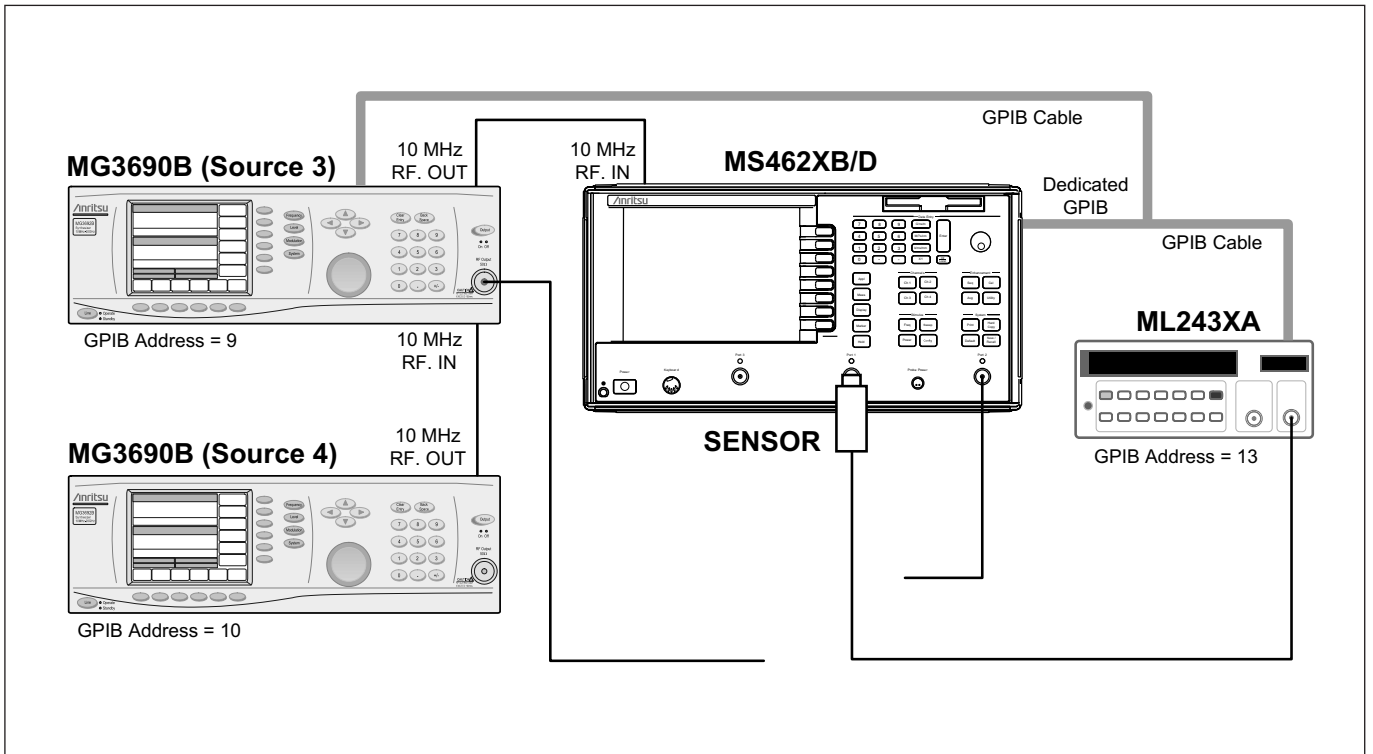

Figure 3. IF Source Leveling Connections
- Step 11. Connect the power sensor to the test port 1 as shown in Figure 3